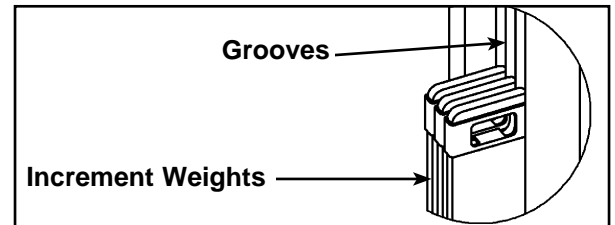

Figure 11
- I. Reinstall the six increment weights that were removed in step 6B. See Figure 11.